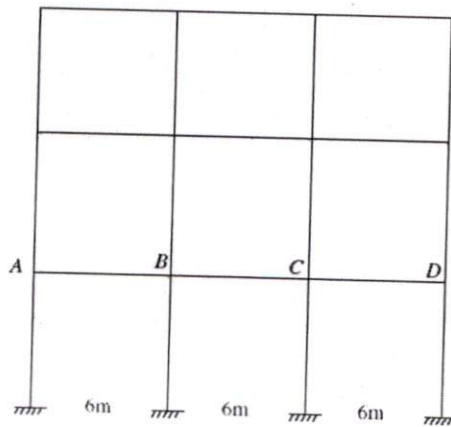

Fig.3
6) Calculate the moment at mid-span BC for portal frame shown in Fig.3, if it is loaded with live loads on the spans AB and CD, in addition to the dead load. Use Cantilever Method. Dead load = 16 kN/m and Live load = 20 kN/m.
7) Calculate the moment at mid-span BC for portal frame shown in Fig.3, if it is loaded with live loads on the spans AB and CD, in addition to the dead load. Use Cantilever Method. Dead load = 16 kN/m and Live load = 22 kN/m.